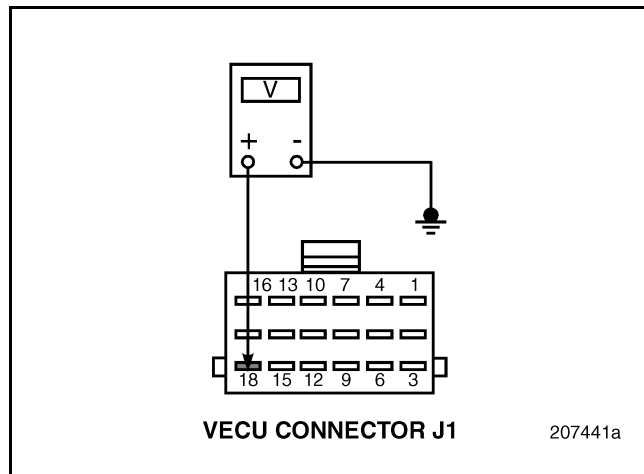

Figure 609
2. Disconnect the harness connector from the Fuel Level (FL) Sensor.
5. Measure the voltage between Vehicle Electronic Control Unit (VECU) connector J1 pin 18 and a good ground (see Figure 609).